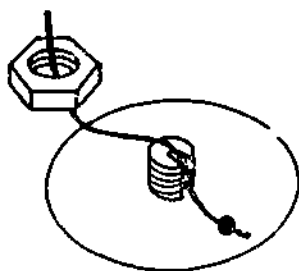

Figure 10-10
11. Thread the new cable through the removed nut and through the slot in the bolt (Figure 10-10).